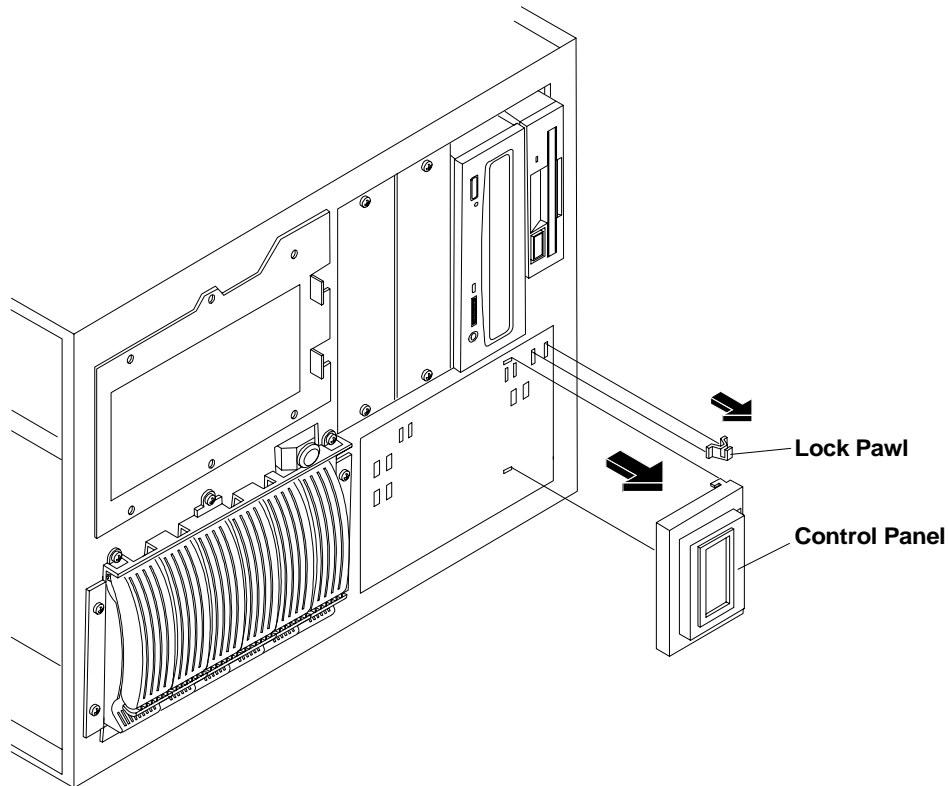

Figure 3-2. Detach Control Panel from NetServer Chassis
2. Unhook the control panel from the face of the chassis, as shown in Figure 3-2. A ribbon cable still connects it to the NetServer.
3. Remove the lock pawl by squeezing the base until the tabs disengage from the mounting slots, as shown in Figure 3-2. The lock pawl is not used on the rack-optimized configuration of the NetServer.